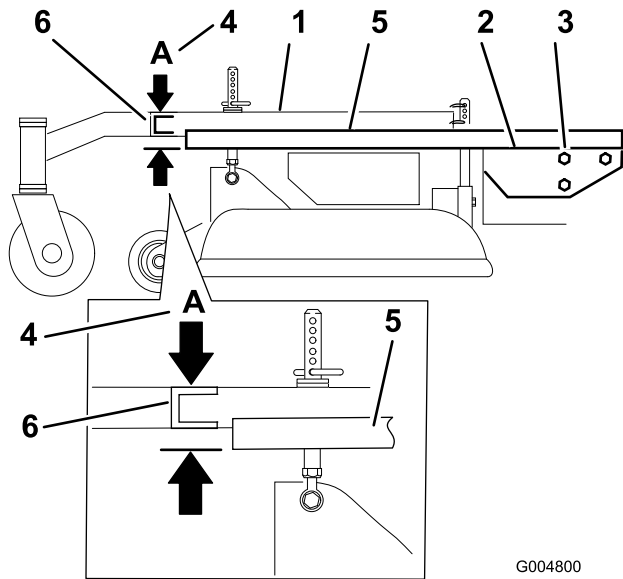

Figure 52
- Place a long straight edge on top of the engine deck as shown in Figure 52.
4. At the carrier frame cross channel, measure the height at location **A** (Figure 52). This measurement must be 33 mm (1-5/16 inch), plus or minus a 6 mm (1/4 inch).
6. Loosen the carrier frame mounting bolts on both sides of the machine (Figure 52).
7. Align the carrier frame and engine deck to match 33 mm (1-5/16 inch), plus or minus a 6 mm (1/4 inch) at location **A** (Figure 52).